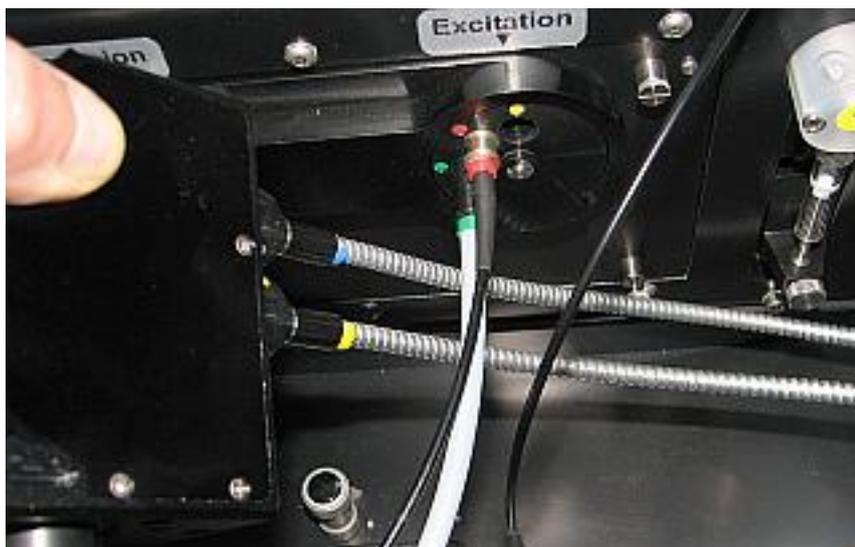

Fig. 20 Feeding the light guides of the TRF-optic head
1) Open the lid of the reagent box of the FLUOstar/POLARstar Omega. Take the body of the TRF-optic head in the left hand, the light guides in your right hand and feed them through underneath the already installed excitation light guides. Let the light guides then point outwards of the instrument to prevent scratches inside the reagent box. (Fig. 20).